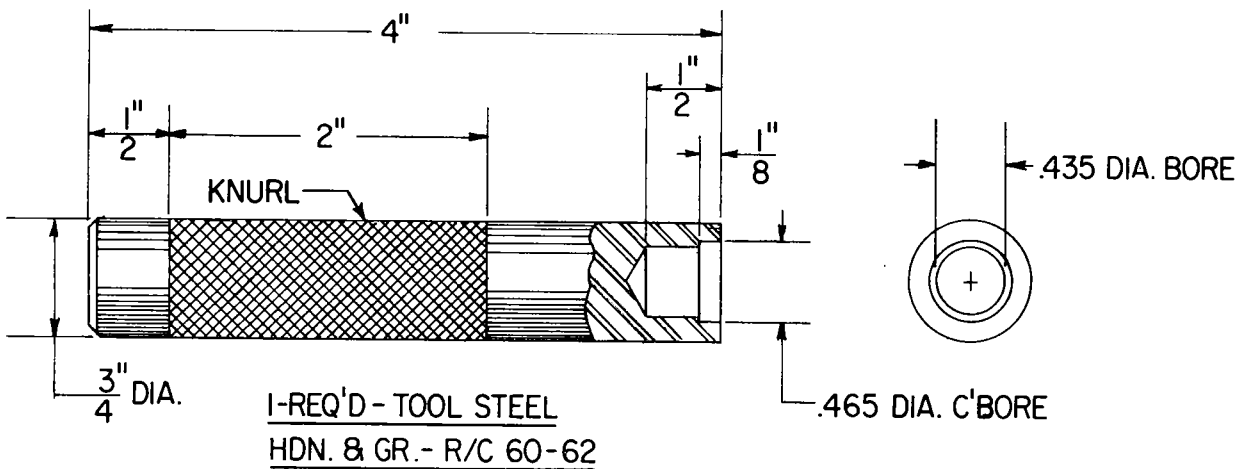

Figure 5-22. Driver - To Install Pressurization Valve Seat
- c. Place a new pressurization valve seat in the driver, fabricated as shown in figure 5-22 and drive to a firm seat in the housing.